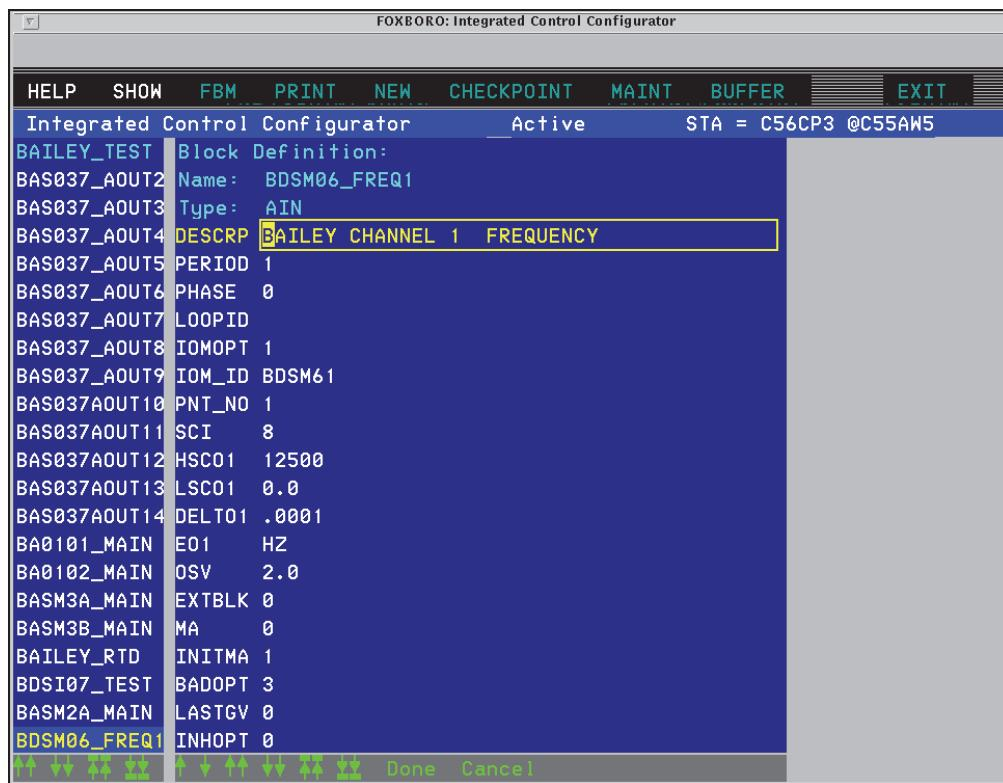
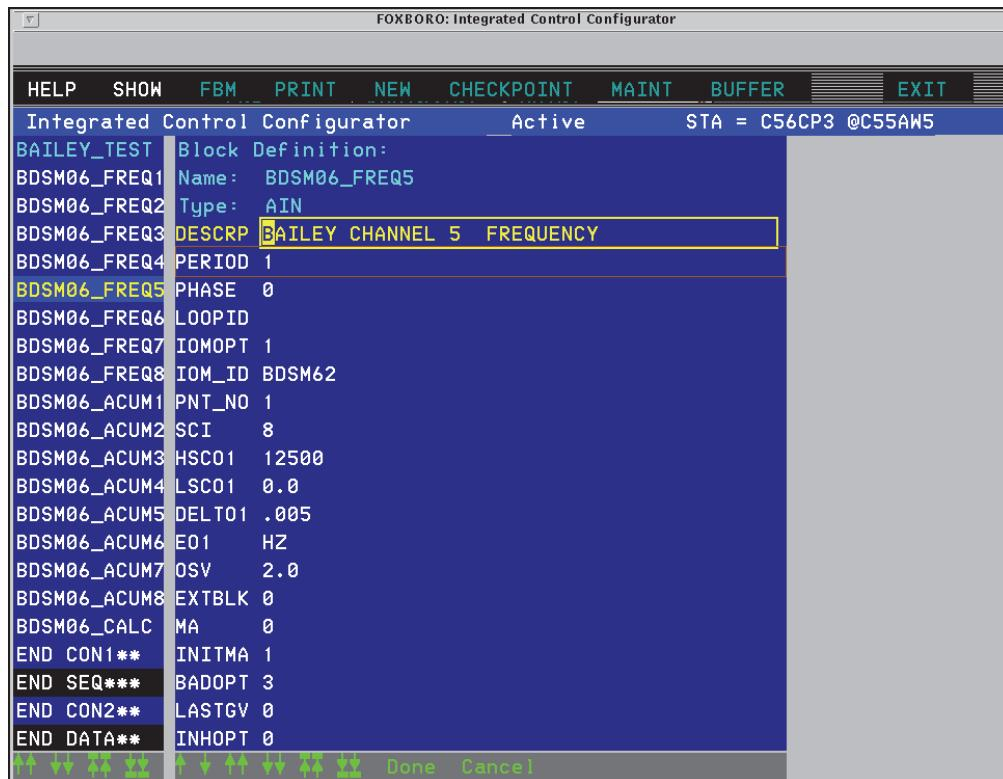

Figure D-13. Configuring the First AIN Control Block for BDSM06 (SMDH)
Figure D-14. Configuring the Fifth AIN Control Block for BDSM06 (SMDH)
Once the equipment control blocks (ECBs) have been configured, the Foxboro Evo control blocks must be configured. For the BDSM06 DCS Fieldbus Module, eight input channels are mapped, four to each of the two virtual FBM06s. Eight AIN blocks are used. Figure D-13 shows an AIN block configured for channel 1 of the first FBM06, and Figure D-14 shows an AIN block configured for channel 1 of the second virtual FBM06. Take note of the following:
- ◆ The eight channels are divided between the two virtual FBMs. Therefore, Channels (or points) 1-4 are assigned to the first virtual FBM, and Channels (or points) 5-8 are assigned to the second. These assignments are reflected in the AIN block configuration examples shown in Figure D-13 and Figure D-14.